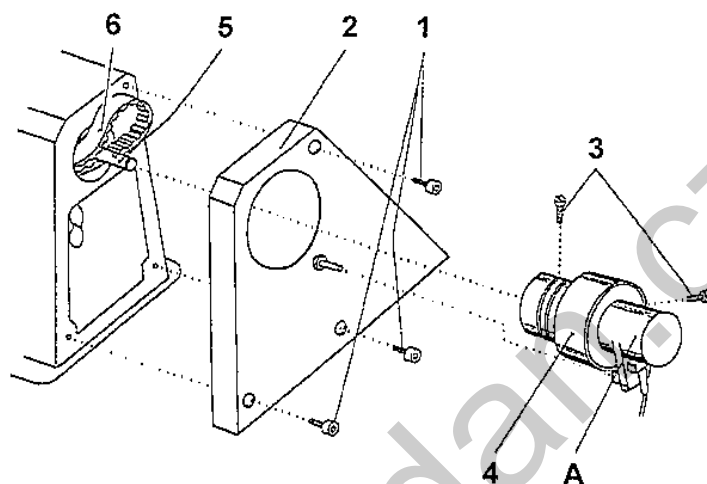

Fig. 3
5. V-belt and its tension (Fig. 3)
15. To take off mount the drive belt (Fig. 3)